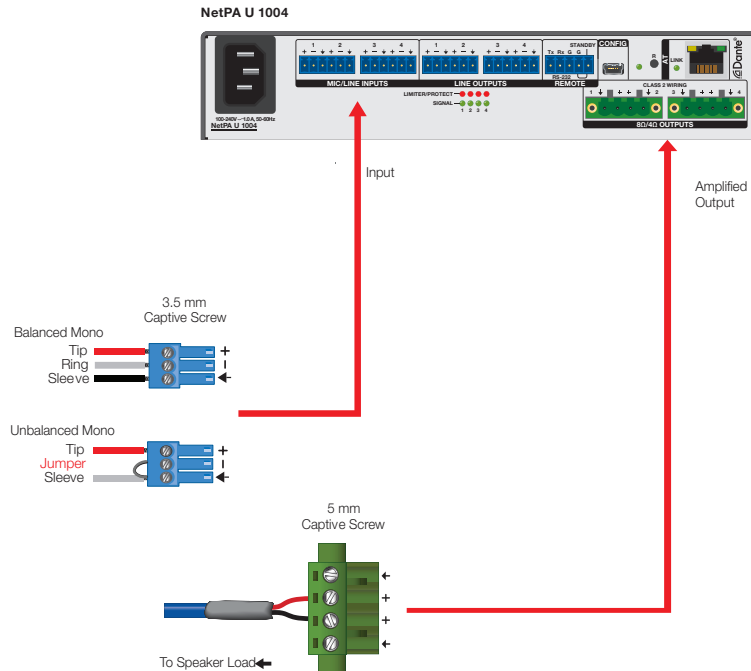

Figure 24. Bridging the Output
4. Wire the outputs (see figure 24 on the next page).
5. If needed, wire the inputs as shown in figure 24. If only using Dante inputs, skip this step.